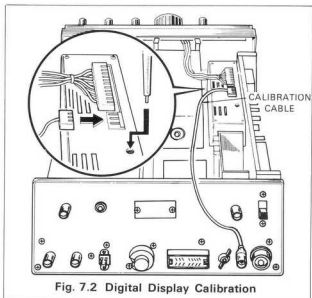

Fig. 7.2 Digital Display Calibration
7.7 DIGITAL DISPLAY CALIBRATION (FIG. 7-2)